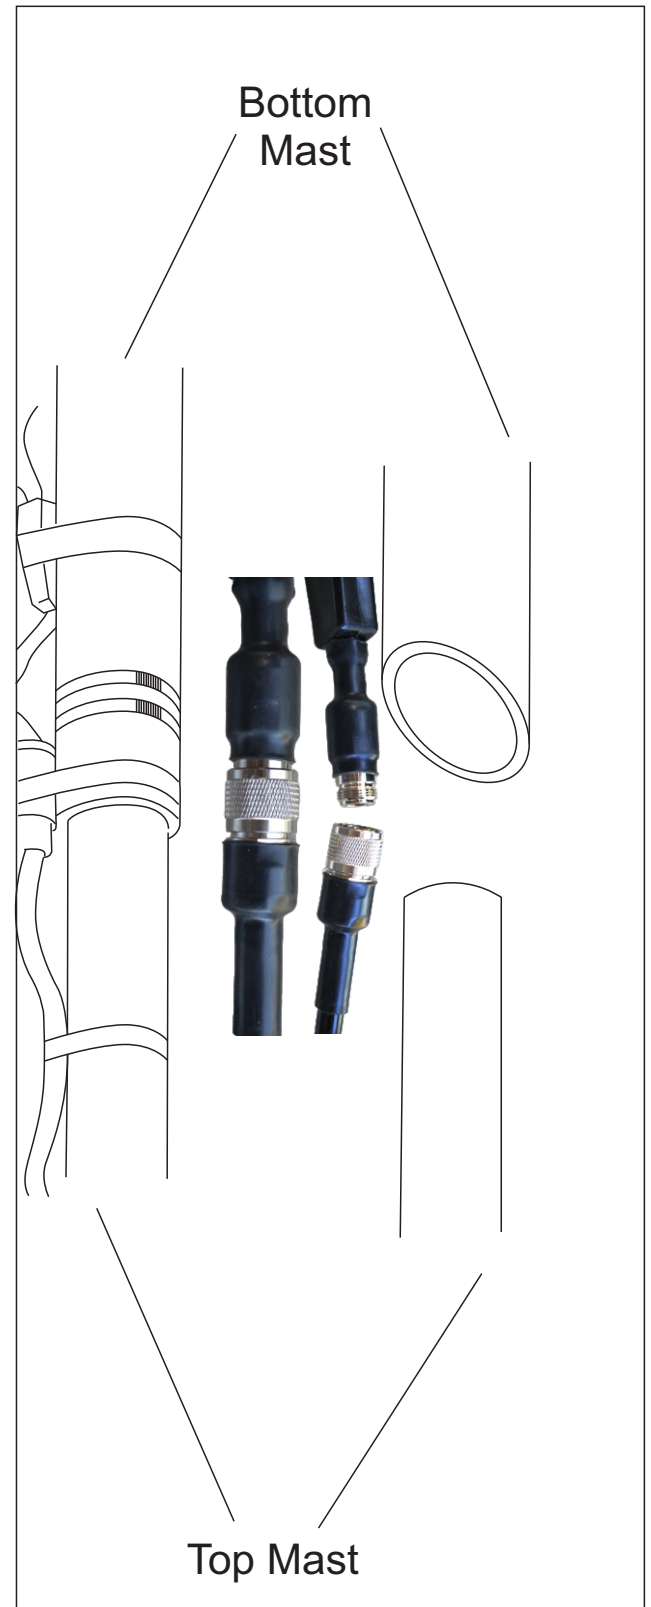

Fig. 5 Joining the Mast Sections
4. Slip the mast sections together and position the bands as shown in Figure 5. Tighten the bands securely; the recommended tightening torque is 45-60 in-lbs. Then, join the connectors, making the connections snug, but do not apply heavy force with pliers. Carefully wrap Vapor-Wrap® (by Commscope) around the connection to seal out moisture problems. Secure the connectors to the mast with several wraps of tape (see Figure 5).